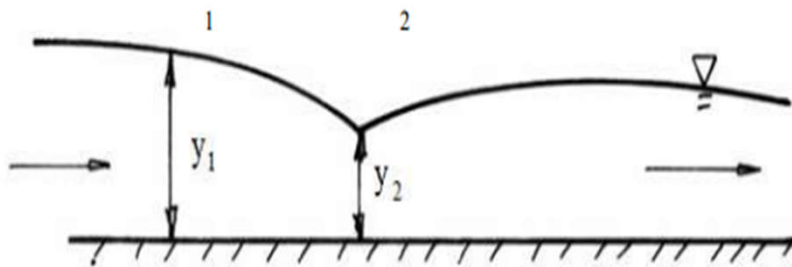

Fig.1.3 Submerged flow condition
- 1) Measure the flow depths at sections 1 and 2 shown in Fig. 1.3 and determine the theoretical discharge .